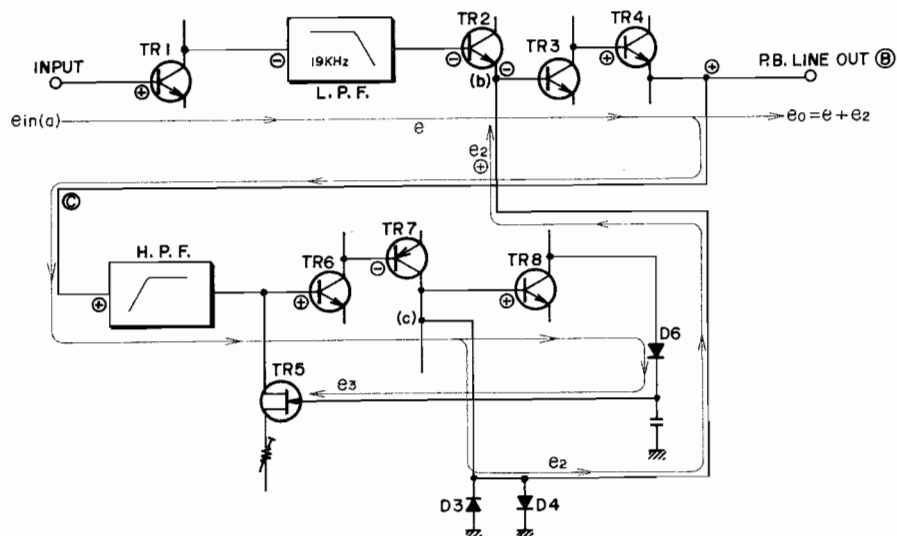

Fig. 49
(Refer to Figs. 49 and 50)
- 3) (Refer to Figs. 49 and 50)